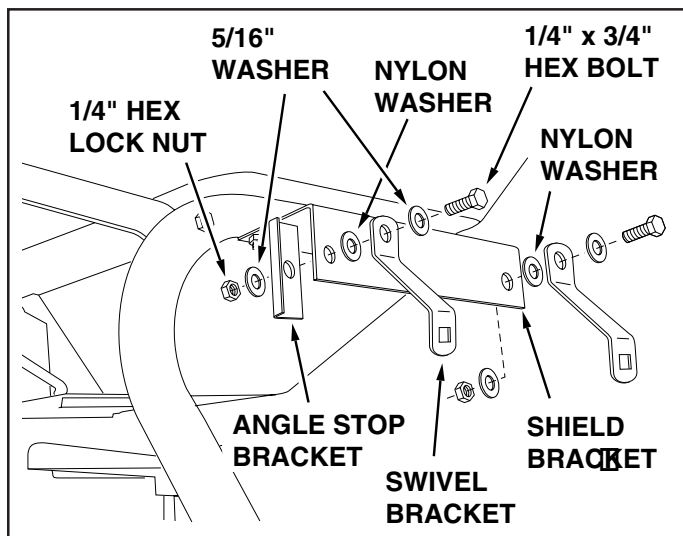

FIGURE 12
26. Attach an angle stop bracket (inside) and a swivel bracket (outside) to the rear hole in the R.H. shield bracket using a 1/4" x 3/4" hex bolt, two 5/16" washers, a nylon washer and a 1/4" hex lock nut. **Tighten** the locknut so that the swivel bracket can pivot freely. See figure 12. Repeat step on L.H. shield bracket.
27. Attach a swivel bracket to the front hole in the R.H. shield bracket using a 1/4" x 3/4" hex bolt, two 5/16" washers, a nylon washer and a 1/4" hex lock nut. **Tighten** the locknut so that the swivel bracket can pivot freely. See figure 12. Repeat step on L.H. shield bracket.